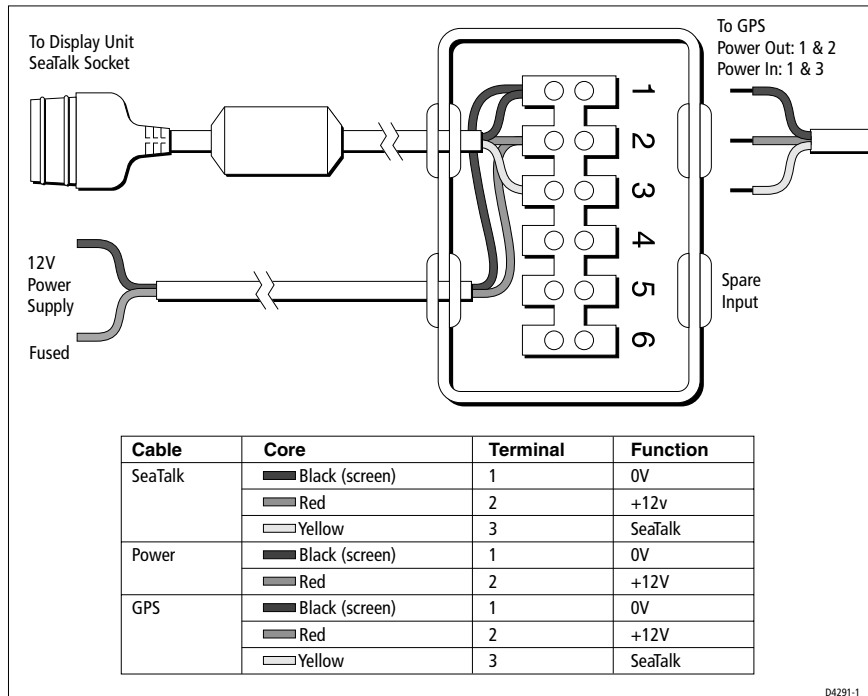

Figure 8-17: Using the Auxiliary Junction Box
*Figure 8-17* shows how to connect the junction box; *Appendix B* provides connection details for specific GPS and Beacon Receiver systems.